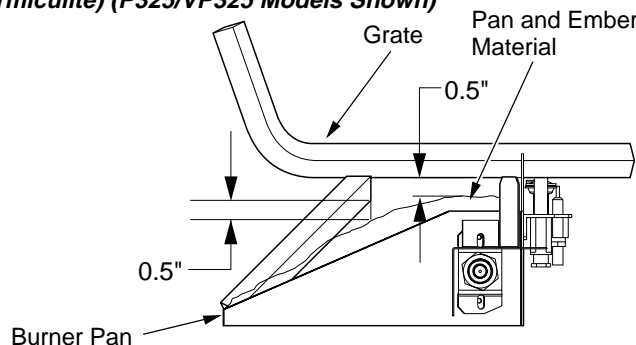

Figure 23 - Pan and Ember Material Clearances (P325/VP325 Models Shown)
4. Place just enough to cover the entire surface and leave about a 1/2 inch gap under the lower grate members to allow air to flow (see Figure 23).